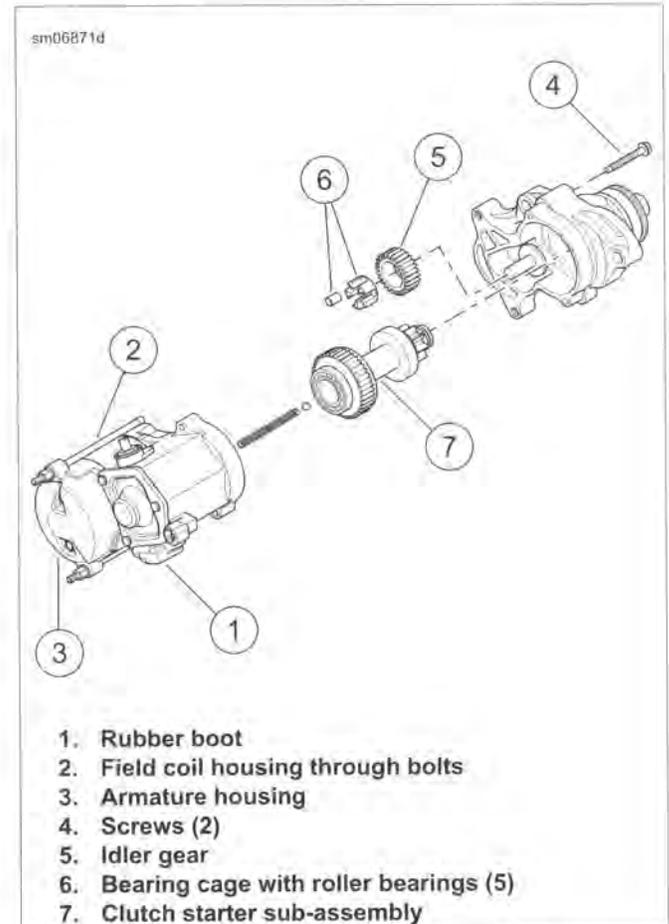

Figure 7-9. Clutch Starter Sub-Assembly and Housing
3. See Figure 7-9. Pull up rubber boot (1) and remove hex nut with captive lockwasher to release field wire from terminal post on solenoid housing.
4. Loosen two through bolts (2) to release field coil housing from solenoid housing.
2. See Figure 7-9. Verify that the idler gear (5) rotates freely without drag or sticking.
4. Inspect roller bearings (6). Bearings must rotate freely without drag or sticking. Replace starter motor if the bearings are pitted or grooved.
1. See Figure 7-9. Assemble starter.
- b. Install bearing cage with five roller bearings (6) onto shaft in drive housing.
- c. Confirm that all five roller bearings are installed in grooves of bearing cage and install idler gear (5) over bearing cage.
2. Lubricate bearings with LUBRIPLATE 110 before installation. Install **new** clutch starter sub assembly (7) in drive housing seating the larger bearing in the counterbore.